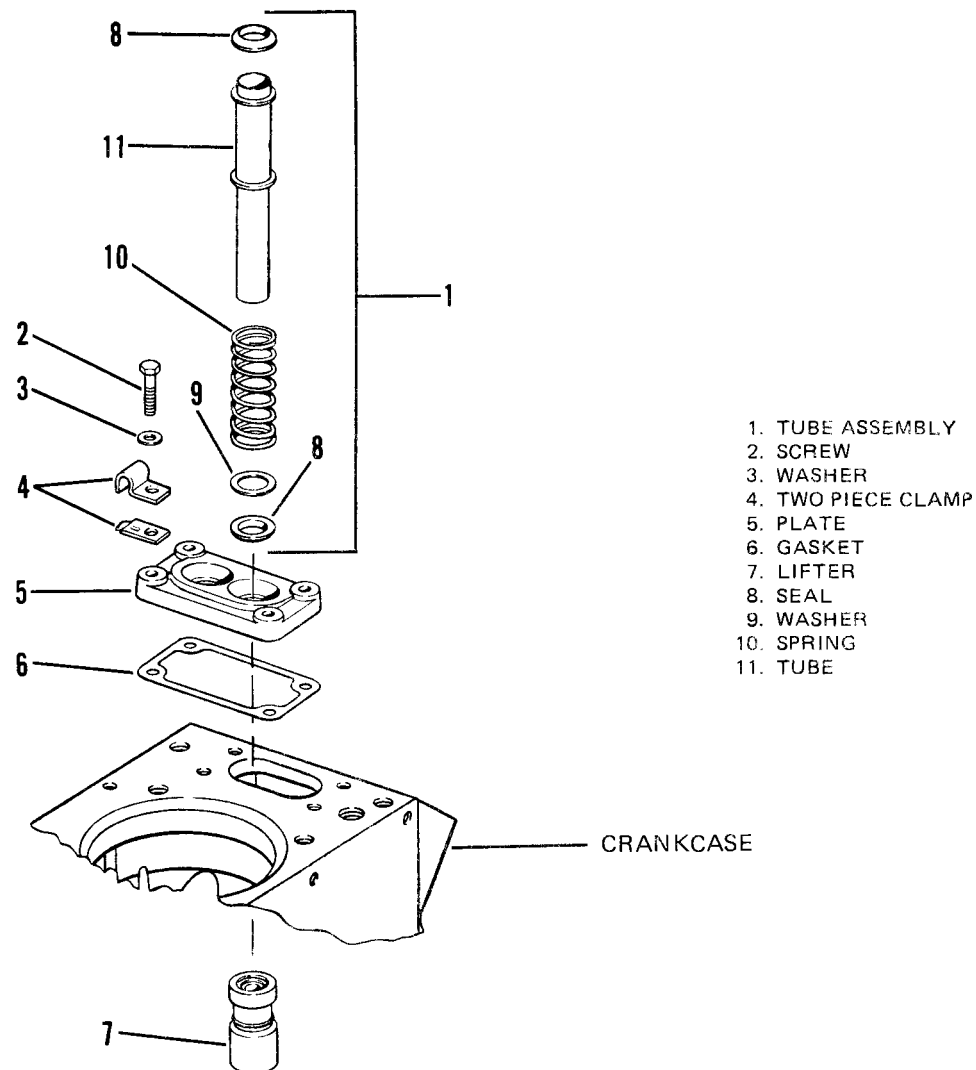

Figure 7-21. Push Rod Tubes and Lifters.
- (1) Remove cylinder head, refer to paragraph 7-6.
(2) Remove lifter tube assembly (1, Figure 7-21).